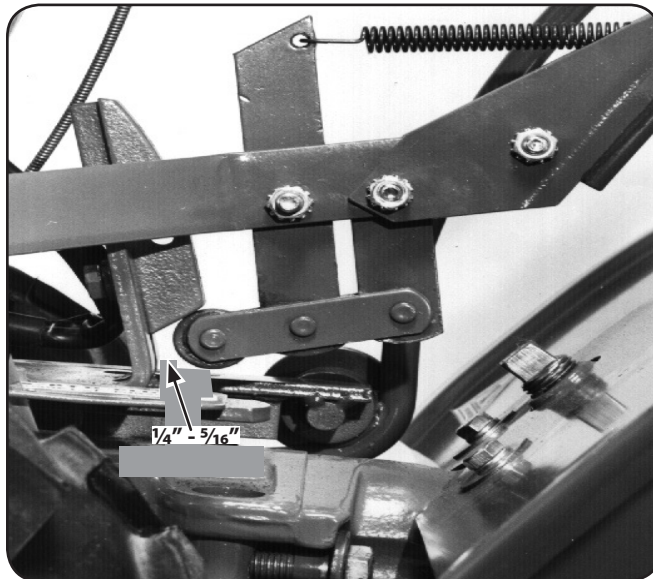

Figure 6-13
2. Move the Wheels/Tines/PTO Drive Lever fully down to the FORWARD position. The clutch roller at the bottom of the lever should be positioned underneath the belt adjustment block. See Figure 6-13. Don't let the clutch roller move during the next few steps. If it moves, you'll get a false belt tension reading.
3. The belt tension is correct if the front of the clutch roller is $\frac{1}{4}$ "-to- $\frac{5}{16}$ " away from the face of the upright bracket that holds the adjustment block in place. See Figure 6-13. To measure this distance: